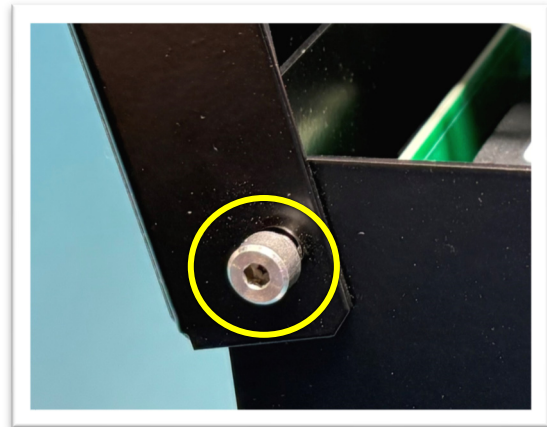

Figure 1.3
- 7) Remove the door hinge screws (x2) on the left-side (top and bottom) of the panel, using an Allen key (2.5 mm) or Torx driver (T15). (See Figure 1.3; yellow)